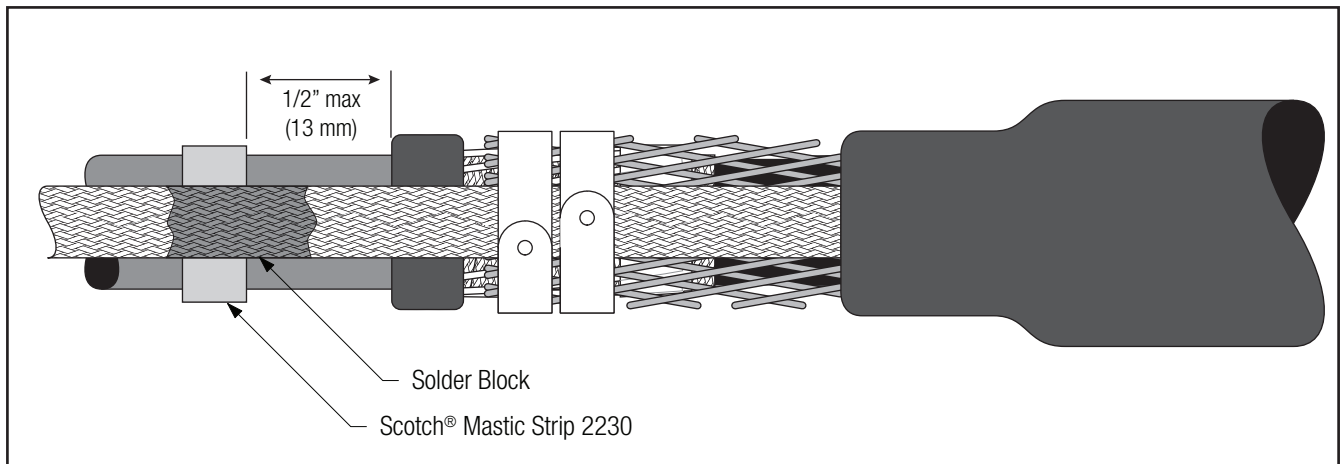

Figure 18
- 5.4 Place one mastic sealing strip on the cable jacket under the solder block of the ground strap no farther than 1/2" (13 mm) from the edge of the vinyl tape from the water block (*Figure 18*).